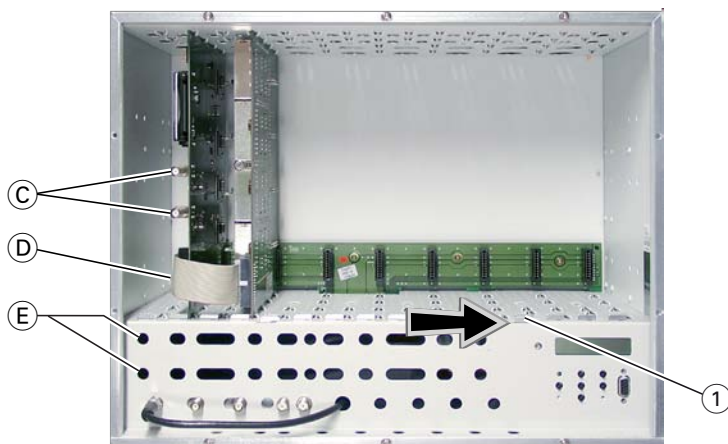

Fig. 5
- Install the appropriate modulator module (fig. 5).
—> Figure 5 shows the slots 1 (digital module) and 2 (modulator module).
- After installing the modules close the locking device ① in direction of the arrow (fig. 5).
- Connect SAT-IF inputs ③ of the digital module (fig. 5) to the preinstalled F terminals in the rear wall of the head-end station via the cable inlets ④ using HF cables made on-site (length approx. 80 cm) or if applicable to one of the outputs of a retrofitted SAT-IF input distributor.
- Using the ribbon cable ④ to connect the AV output of the digital module to the AV input of the modulator module.